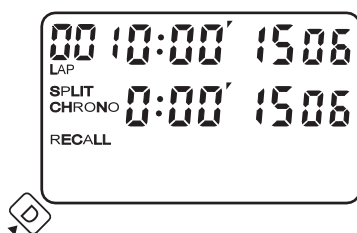

Fig. 9
- Press D again to recall the 1st LAP data, as shown in Fig.9.